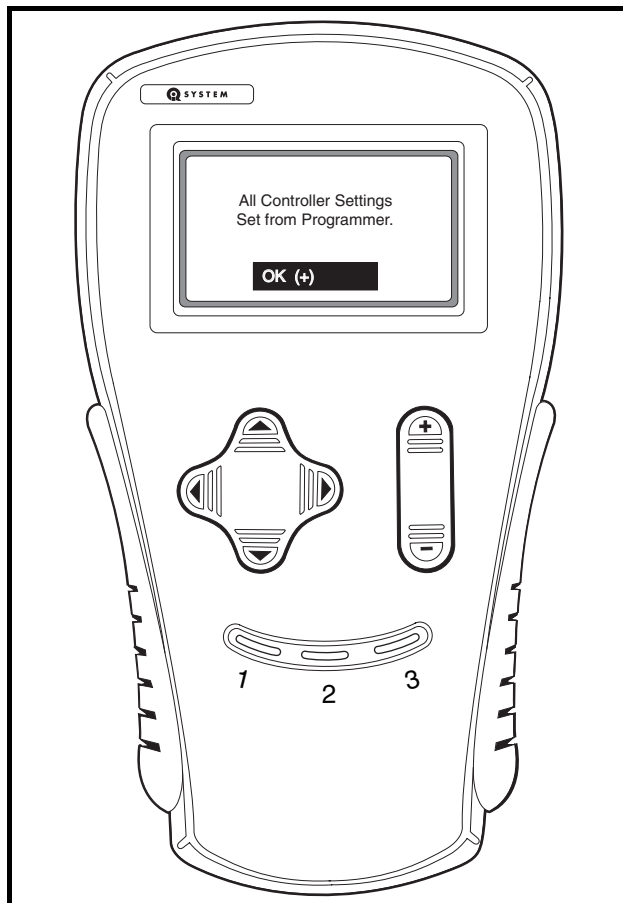

Figure 12-7 Confirmation Message
10. When the handset is finished transferring the speed controller settings, a confirmation message is displayed (**Figure 12-7**).